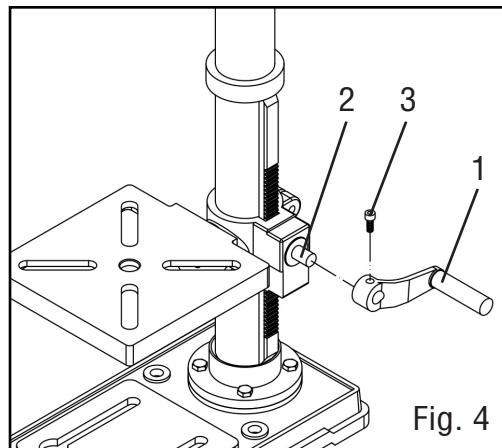

Fig. 4
4. Insert the table adjustment handle (Fig. 4 - 1) onto the adjustment shaft (Fig. 4 - 2). Align the socket-head set screw (Fig. 4 - 3) on the handle with the flat of the adjustment shaft. Using the larger hex wrench, tighten the set screw.